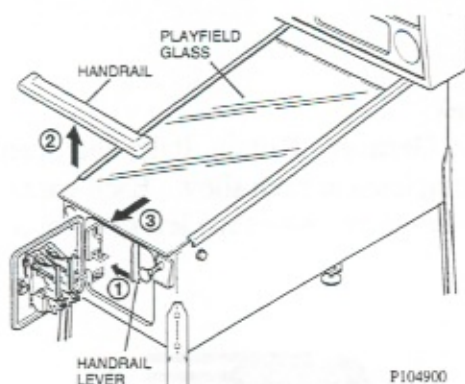

FIGURE 10: REMOVING PLAYFIELD GLASS
- 19) Open the coin door. Locate lock lever and pull towards center of cabinet; remove handrail and set aside. Remove playfield glass by sliding down and out of armor guides. **CAREFULLY** set glass aside (see Figure 10).